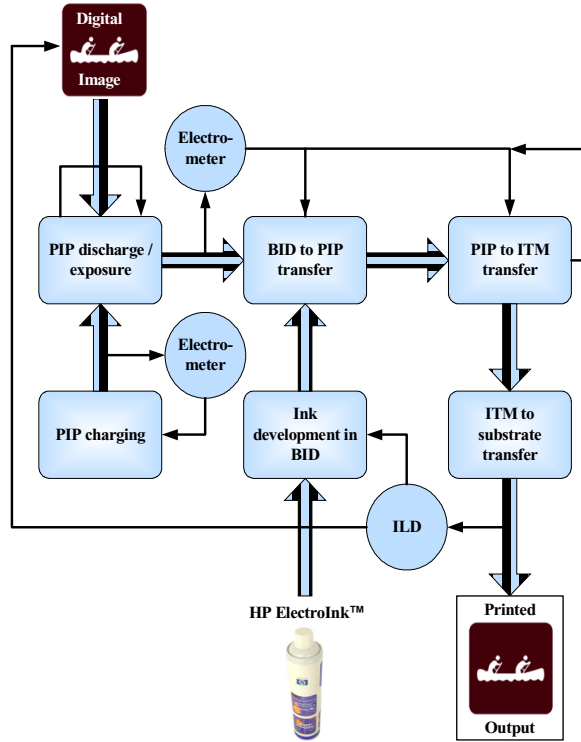

Figure 11. Color and OD control
To control color, printed ink thickness and dot size must be controlled. This is performed in progressive steps during the printing process; figure 11 represents an overall view of the color and optical density (OD) control system.